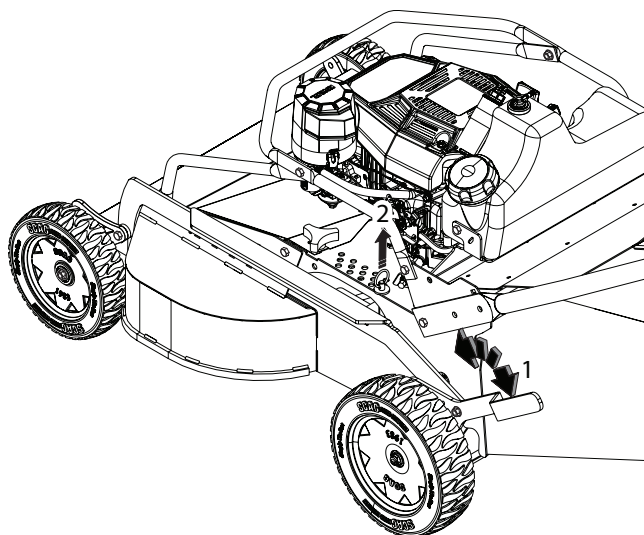

Figure 4-5. Adjusting Cutting Height
3. Lift up and forward on the cutting height adjustment lever. See Figure 4-5.
4. Lift the pin and insert into the cutting height index at the desired cutting height. See Figure 4-5.